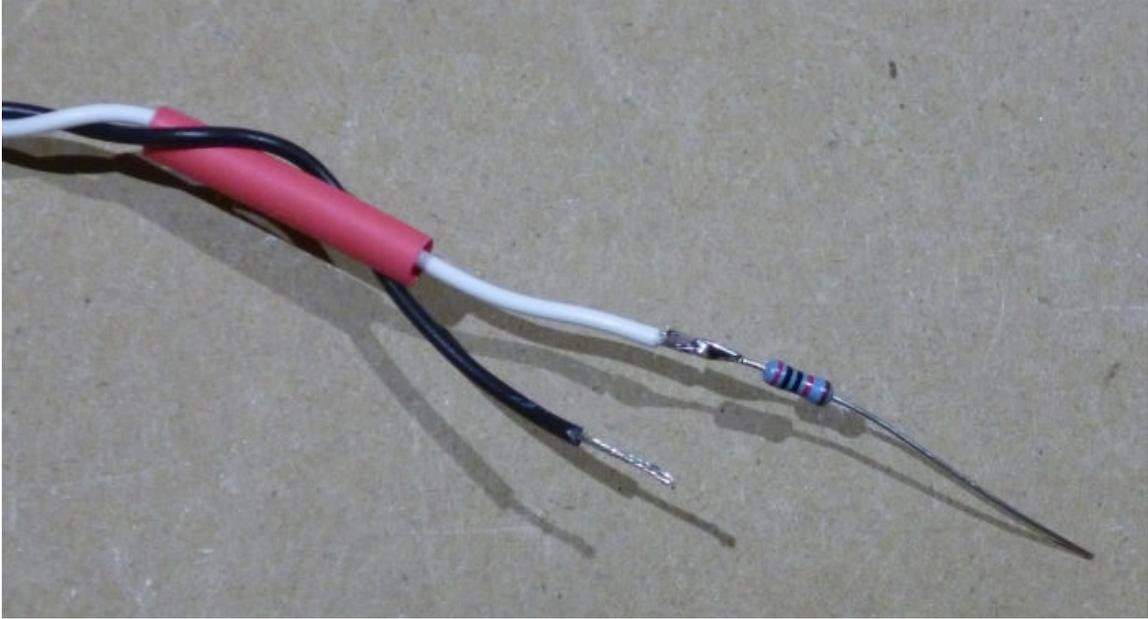

Figure 5-crimping and soldering the resistor in place
8. Interlock the hook in the white wire and the resistor, crimp both hooks, and solder the resistor to the wire as shown in Figure 5. Keep the joint relatively compact, and keep the soldering iron heat away from the heat shrink tubing.